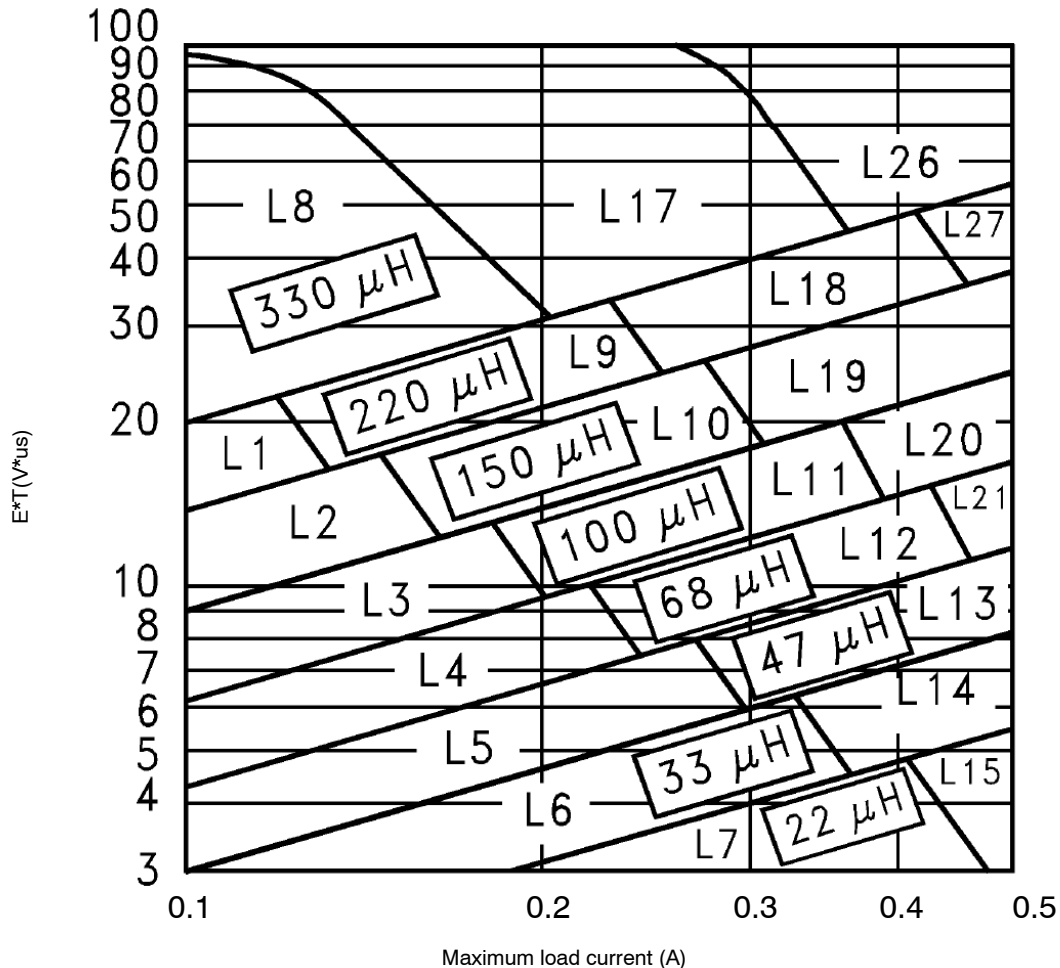

Figure 19. Inductor Value Selection Guides (For Continuous Mode Operation)
<p>4. Inductor Selection (L1)</p> <p>A. Use the following formula to calculate the inductor Volt x microsecond [V x μs] constant:</p> $E \times T = (V_{IN} - V_{OUT} - V_{SAT}) \times \frac{V_{OUT} + V_D}{V_{IN} - V_{SAT} + V_D} \times \frac{1000}{150 \text{ kHz}} (V \times \mu\text{s})$ <p>B. Match the calculated E x T value with the corresponding number on the vertical axis of the Inductor Value Selection Guide shown in Figure 19. This E x T constant is a measure of the energy handling capability of an inductor and is dependent upon the type of core, the core area, the number of turns, and the duty cycle.</p> <p>C. Next step is to identify the inductance region intersected by the E x T value and the maximum load current value on the horizontal axis shown in Figure 19.</p> <p>D. Select an appropriate inductor from Table 3. The inductor chosen must be rated for a switching frequency of 150 kHz and for a current rating of 1.15 x I_{Load}. The inductor current rating can also be determined by calculating the inductor peak current:</p> $I_{p(\text{max})} = I_{\text{Load}(\text{max})} + \frac{(V_{in} - V_{out}) t_{on}}{2L}$ <p>where t_{on} is the “on” time of the power switch and</p> $t_{on} = \frac{V_{out}}{V_{in}} \times \frac{1.0}{f_{osc}}$	<p>4. Inductor Selection (L1)</p> <p>A. Calculate E x T [V x μs] constant:</p> $E \times T = (12 - 5 - 1.0) \times \frac{5 + 0.5}{12 - 1 + 0.5} \times \frac{1000}{150 \text{ kHz}} (V \times \mu\text{s})$ $E \times T = (6) \times \frac{5.5}{11.5} \times 6.7 (V \times \mu\text{s})$ <p>B. E x T = 19.2 [V x μs]</p> <p>C. I_{Load(max)} = 0.5 A Inductance Region = L20</p> <p>D. Proper inductor value = 100 μH Choose the inductor from Table 3.</p>
To simplify the inductor selection process, an inductor selection guide for the LM2594 regulator was added to this data sheet (Figure 19). This guide assumes that the regulator is operating in the continuous mode, and selects an inductor that will allow a peak-to-peak inductor ripple current to be a certain percentage of the maximum design load current. This percentage is allowed to change as different design load currents are selected. For light loads (less than approximately 300 mA) it may be desirable to operate the regulator in the discontinuous mode, because the inductor value and size can be kept relatively low. Consequently, the percentage of inductor peak-to-peak current increases. This discontinuous mode of operation is perfectly acceptable for this type of switching converter. Any buck regulator will be forced to enter discontinuous mode if the load current is light enough.